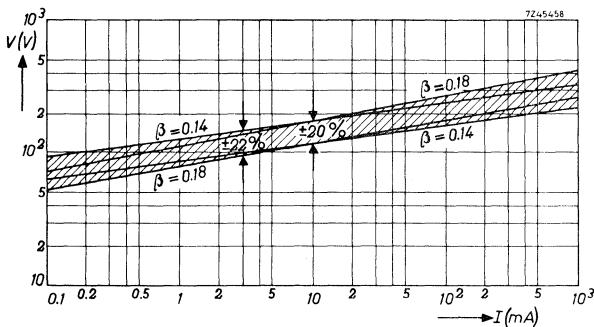

Fig. 10 Spread of voltage/current characteristic due to β -tolerance.
According to Eq. (1) it is possible to specify the electrical characteristics of a varistor by giving its C and β -values. The advantage of this specification is that only two parameters are used. The disadvantage is, however, that due to the inevitable tolerances on the β -values, the spread in voltages at low currents (in the working area) becomes very large. It is for this reason that the method of specifying by the C-value defined at 1 A is abandoned and we now specify the voltage across the varistor at currents which lie in the working area (1, 10 or 100 mA instead of 1 A). In this way it is possible to supply varistors which have much closer tolerances in the area where they are used, see Fig. 10.
Standard varistors are specified with a certain tolerance on voltage and a spread on β -value. It can be seen in Fig. 10 that due to the spread in β -value the tolerance on voltage may increase at currents other than the specified current at which the varistor is measured.